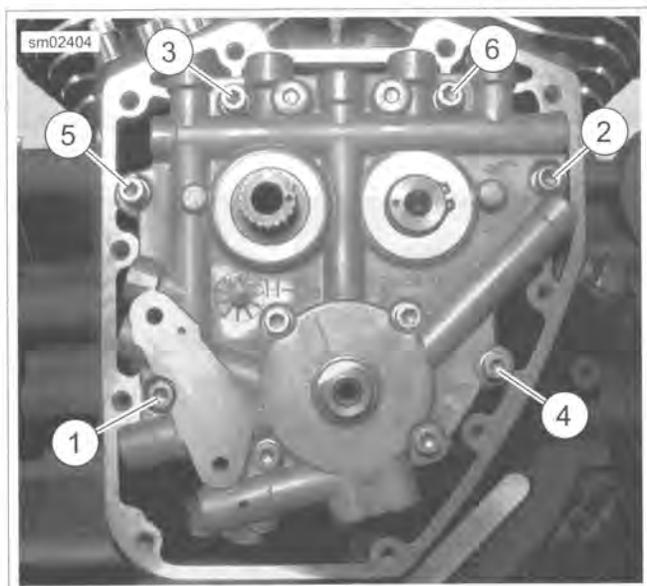

Figure 3-108. Cam Support Plate Torque Sequence
5. See Figure 3-108. Install cam support plate screws. Tighten to 90-120 in-lbs (10.2-13.6 Nm) in the sequence shown.